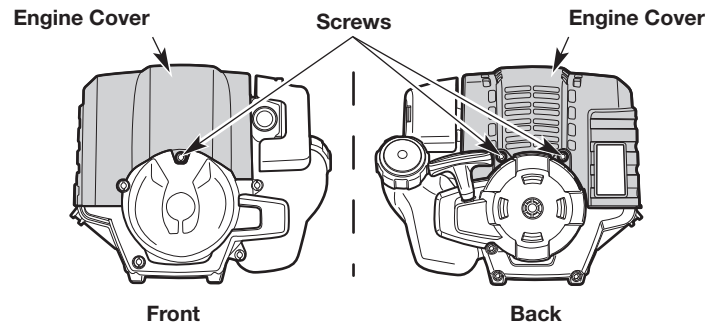

Fig. 40
2. Remove the three (3) screws from the engine cover with a flat-head screwdriver or T-25 Torx screwdriver (Fig. 40). Remove the engine cover.